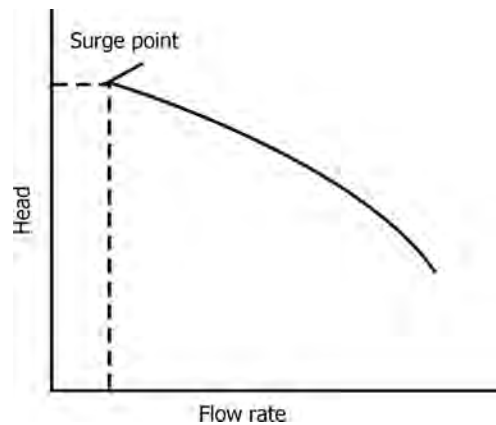

FIGURE 5.38 Centrifugal compressor operating curve.
- Figure 5.38 illustrates surge point on the centrifugal pump operating curve.
- A surge limit line (SLL) is the line connecting the various surge points of a compressor at varying rpms. The set point of the antisurge controller is represented on the compressor map shown in Figure 5.38 by a line that runs parallel to the surge limit line. This line is called the surge controller line (SCL).